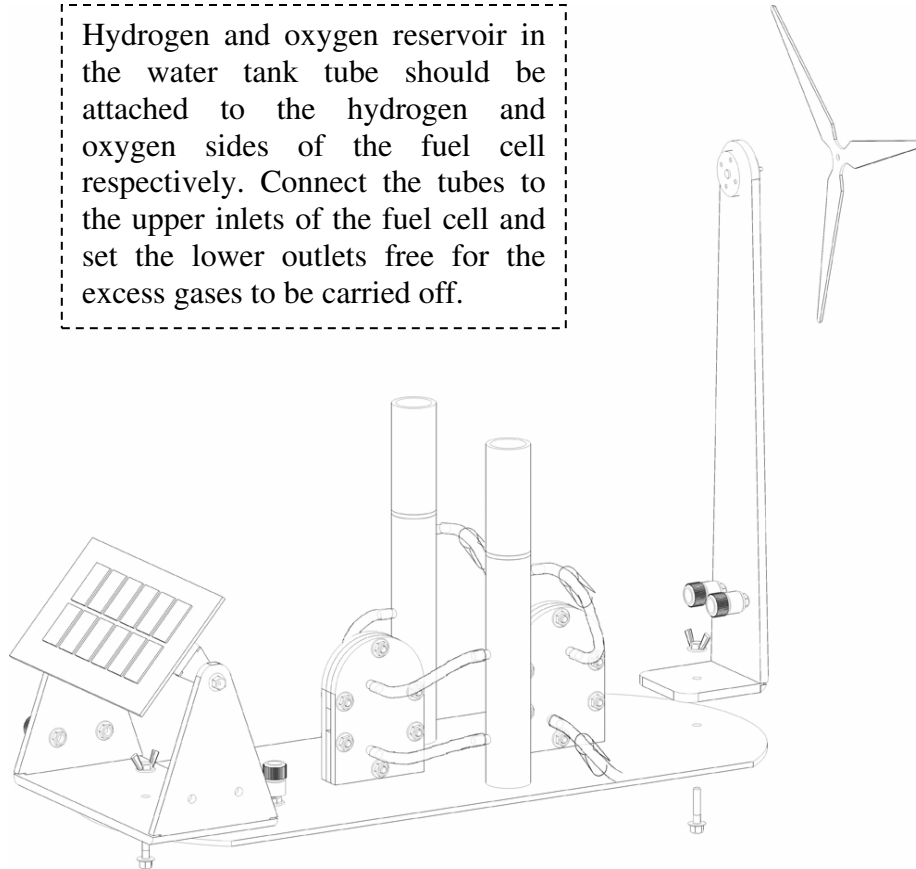

Fig. 3 Connecting Rubber Hoses and Clips
3. Connect the electrolyzer water inlet and gas outlet to the water tank tubes using the flexible tubes. Then, connect the water tank tubes to the fuel cell using flexible tubes. Prevent the flexible tubes from being folded. (Fig. 3)
- screw and nut provided. Connect the fan blade to the electric motor shaft. Avoid pushing the blade all the way to the end of the electric motor shaft. Check to make sure that the fan can rotate freely (Fig. 3)
4. When the electric current with 1.6 volt or more reaches to the electrolyzer, hydrogen and oxygen bubbles will appear in the anode and the cathode of electrolyzer. To store hydrogen and oxygen block the two flexible tubes that connect the water tank tube to the fuel cell, by means of clips which are placed on the hoses. Fig. 3. Misplacing the polarity or applying voltages in excess of 2.0 volt will permanently damage the electrolyzer.